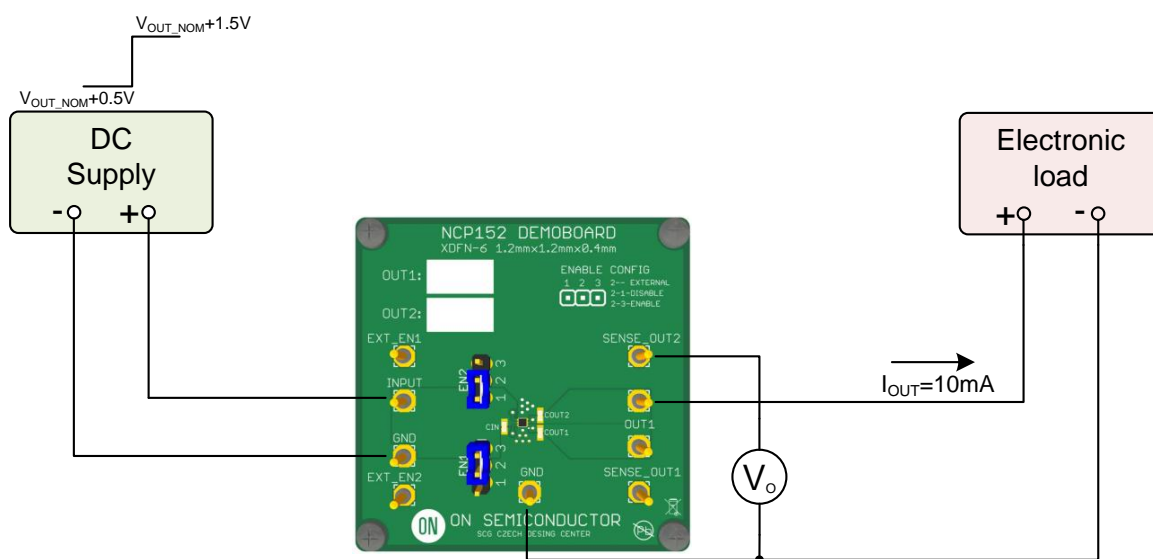

Figure 3: Test configuration for measurement REG_{LINE} , Line Regulation
1. Connect circuit as shown on figure 3